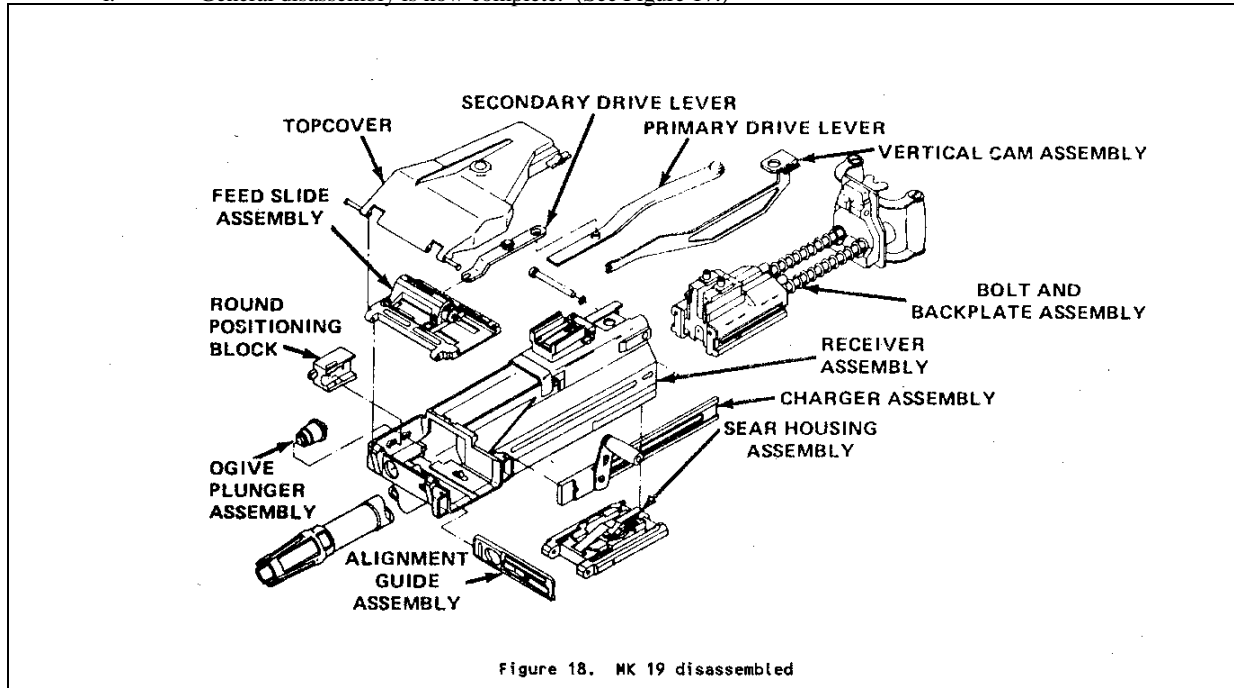

Figure 17. MK 19 disassembled
- i. General disassembly is now complete. (See Figure 17.)